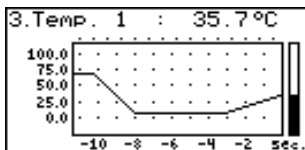

Fig. 6.9. "graph" mode
- "Graph" mode (Fig. 6.9) enables the momentary values or averaged values of measurements conducted for one of measurement channels to be viewed in the form of a graph.